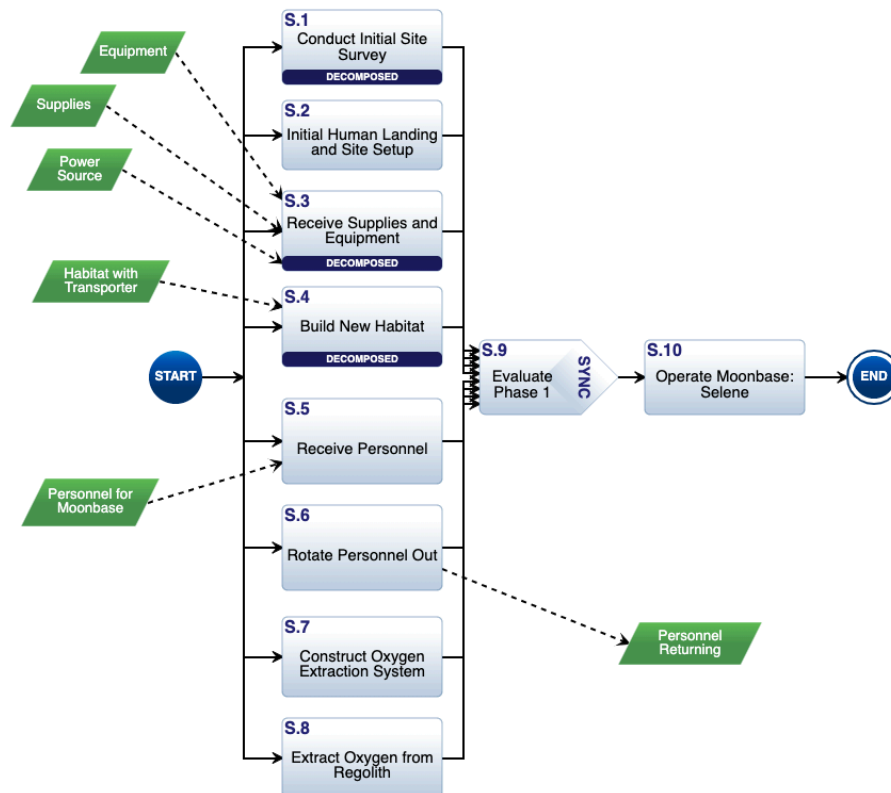

Figure 22. Scenarios for Constructing and Operating the Moonbase
12. Drag the entities onto the diagram to match Figure 22.